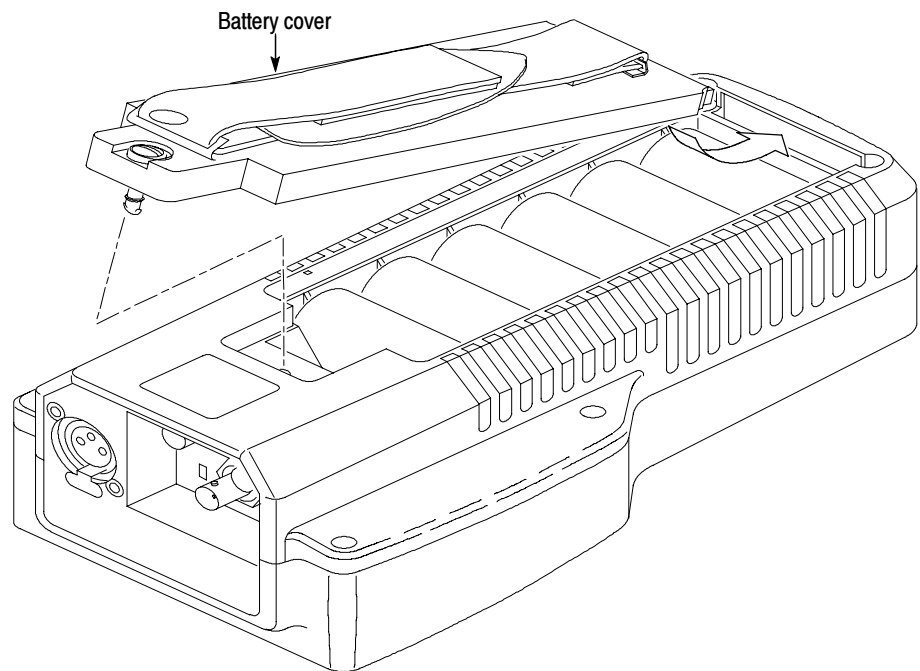

Figure 12: Installing the battery cover
1. Place the lower lip of the battery cover into the instrument housing and press the top portion of the cover into the instrument (see Figure 12).